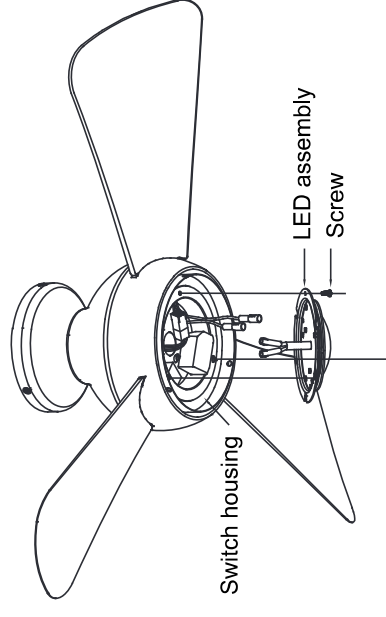

Fig. 16a
Step 7. For use with light kit: Connect the 2 single-pin connectors from the switch housing to the 2 single-pin connectors from the LED assembly. Assemble the LED assembly to the switch housing using the two key slots. Replace the third screw removed in step 4 and securely tighten all three screws (**Fig. 16a**)